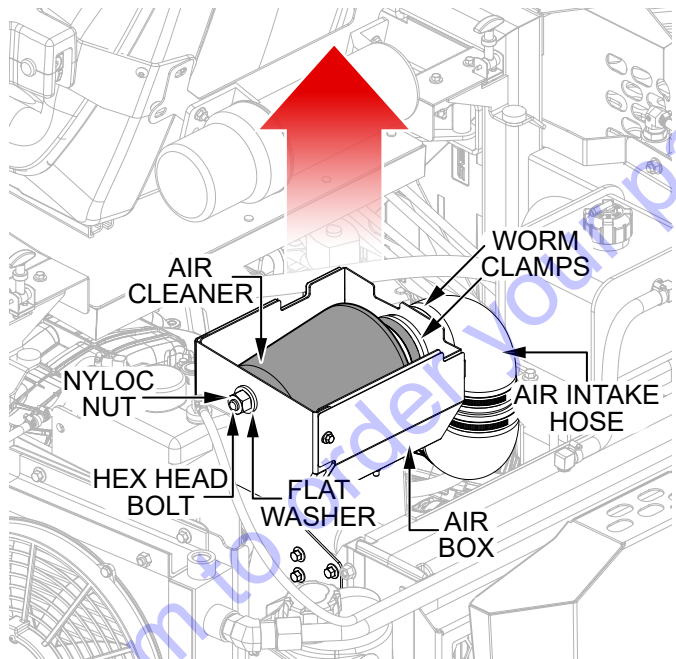

Figure 56. Air Cleaner Removal
3. Remove and set aside the nyloc nut and flat washer securing the air cleaner to the air box (Figure 56).
4. Remove and set aside the two worm clamps securing the air cleaner to the air intake hose (Figure 56).